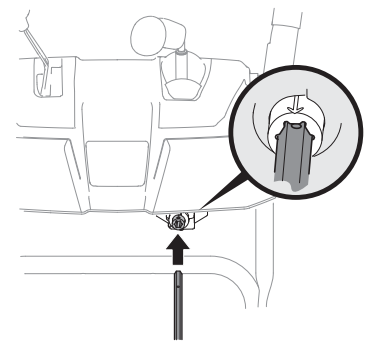

Figure 2-30
6. Insert chute control rod into pinion gear below joystick. Make sure to line up hole in rod with arrow on pinion gear. See Figure 2-30.
7. Check that cables are properly routed through cable guide on top of engine. See Figure 2-30.